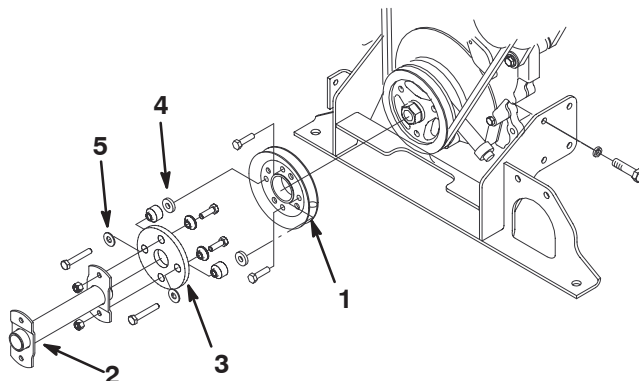

Figure 2
6. Mount the new pulley to the existing engine pulley with (2) M8-1.25 x 30mm capscrews (Fig. 2).
8. Mount the couplings to the new drive shaft with the bolts, spacers and nuts previously removed (Fig. 2).
9. Mount the rear coupling to the engine pulley with (2) new M8-1.25 x 50 mm bolts, new 3/8" washers and new .344 ID x .875 x OD x .179 thick spacers. Position the components as shown in figure 2.
10. Mount the forward coupling to the jack shaft assembly with the (2) bolts, washers, spacers and nuts previously removed (Fig. 2).